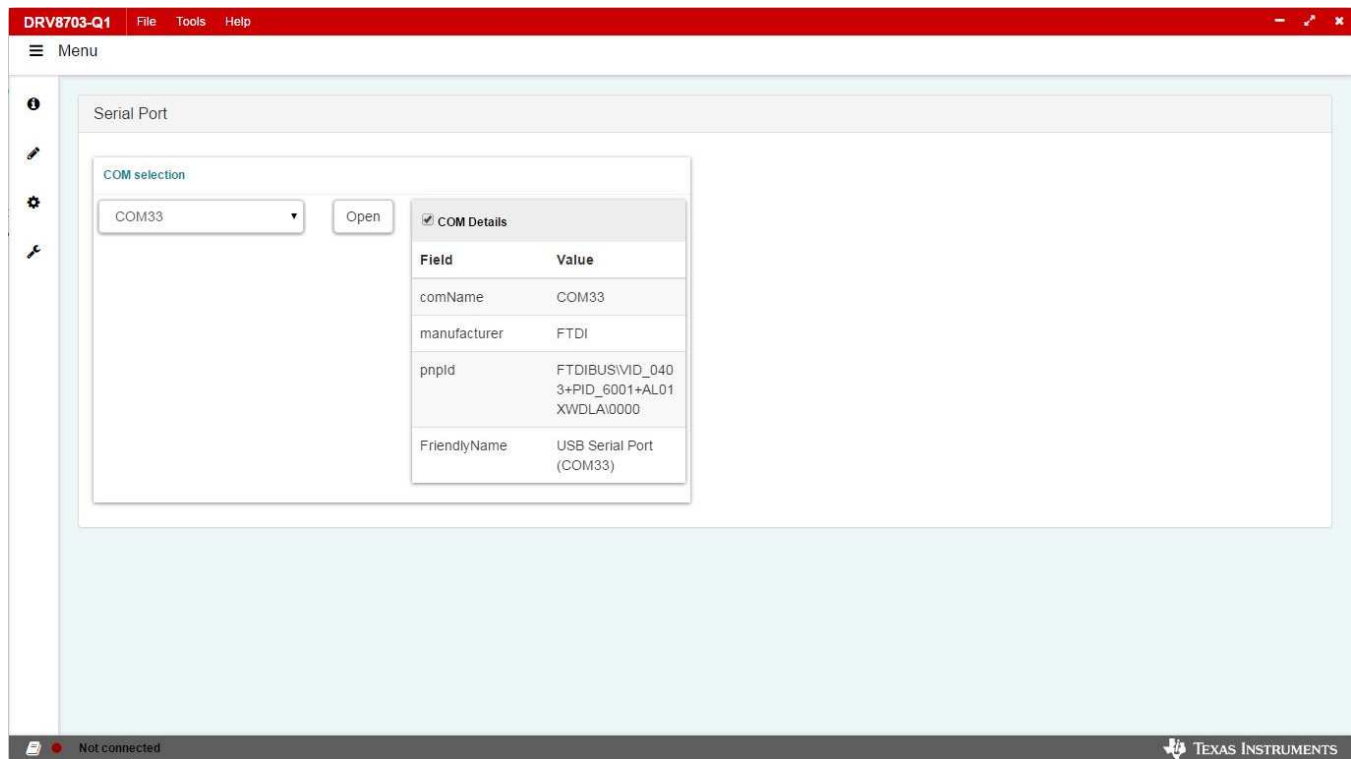

Figure 6. DRV8703-Q1-EVM GUI (COM Opened)
- Step 7. After the GUI connects, the window in Figure 6 is displayed. Verify that the COM port name (COM port number may differ), and baud rate match what is shown in Figure 6. The bottom left corner of the status bar shows a green indicator to indicate the connection with the opened COM mentioned in the bracket.